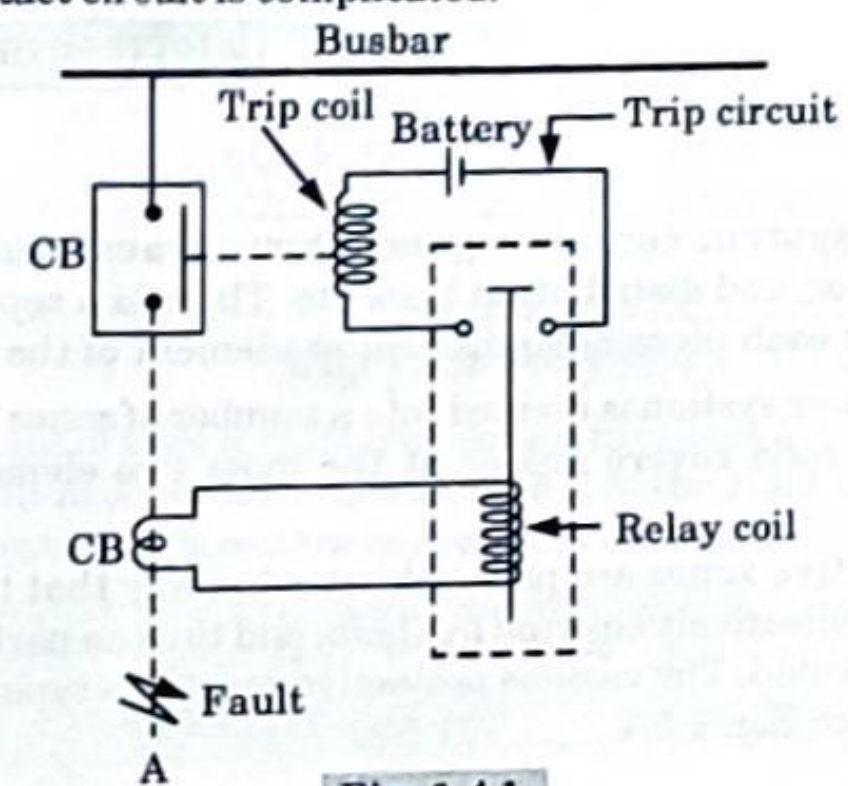

Fig. 1.4.1.
2. Circuit for relay is shown in Fig. 1.4.1. Relay circuit is a 3-phase circuit and its contact circuit is complicated.
5. If the fault is as shown in Fig. 1.4.1, then current through the line connected to A increases to a very high value. Accordingly secondary current of the CT increases which is nothing but the current through relay coil.